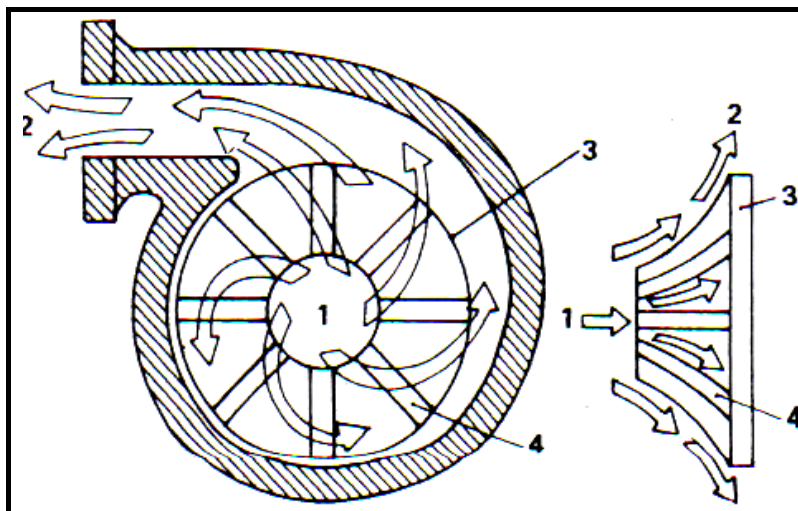

FIGURE 6.1
- 6.3 A blower can be fitted to the engine to increase the vehicle's engine performance as shown in FIGURE 6.1 below. Answer the questions that follow.
- 6.3.1 Identify the type of blower shown in FIGURE 6.1. (1)